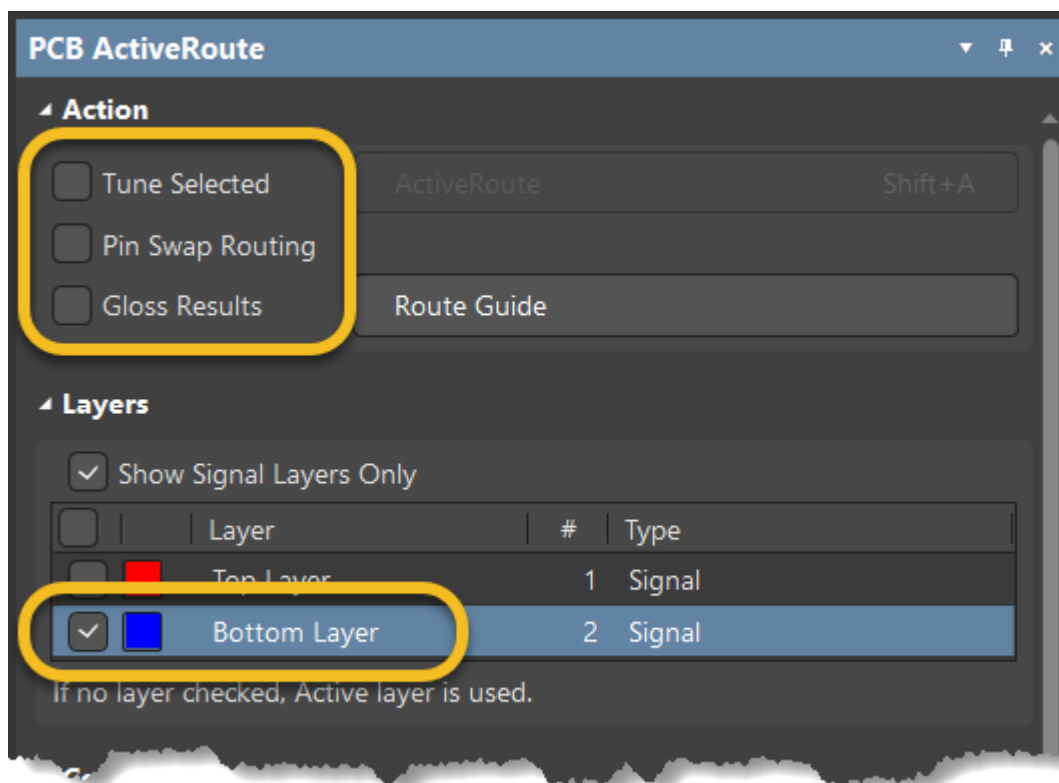

Figure 2. ActiveRoute Panel with a Layer Selection
14. Activate the Bottom Layer, deactivate additional options like **Gloss Result** if they are active, see Figure 2 as reference.